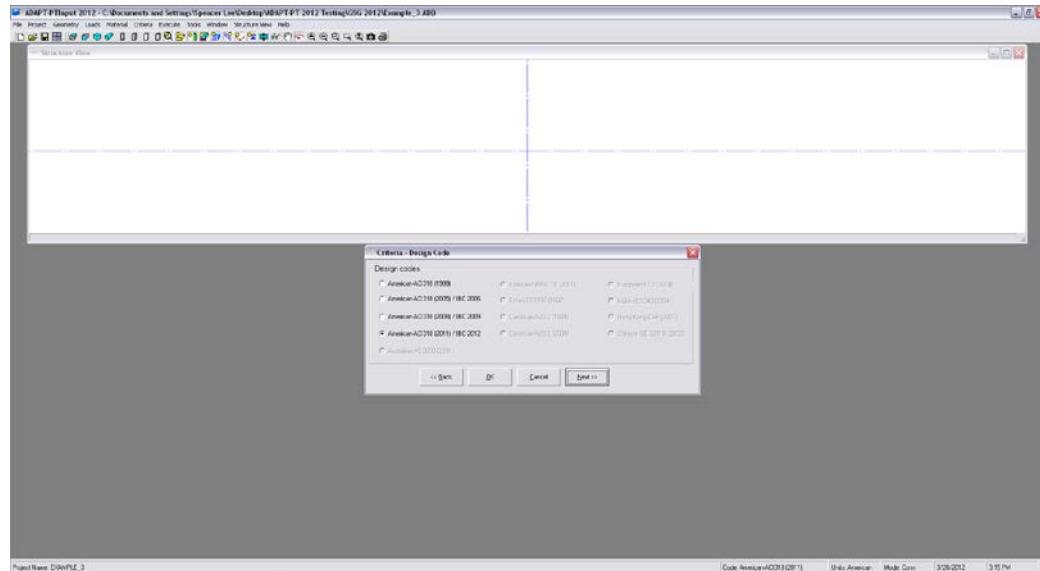

FIGURE 4.2-2
4.2.1.2 Design Code (Fig. 4.2-2)
In the second step you can specify the design code. PT 2012 now includes **ACI318-2011/IBC 2012**, which was selected at the onset of the new model. This should be selected in the Design Code Screen as shown in **Fig. 4.2-2**.